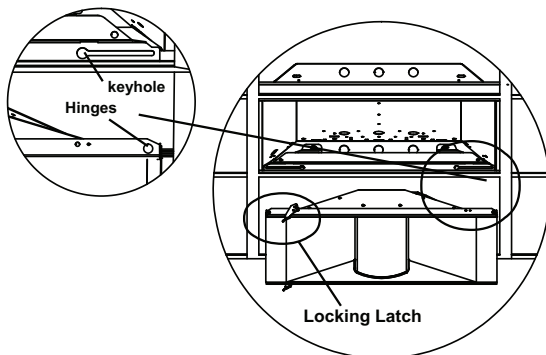

Fig. 4
5. Locate the door assembly body onto the keyholes of end brackets, then slide the door assembly body horizontally to the end of slots. (Fig.4)